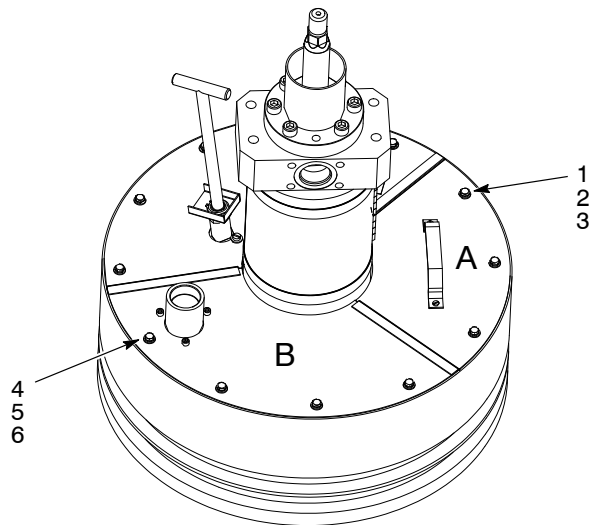
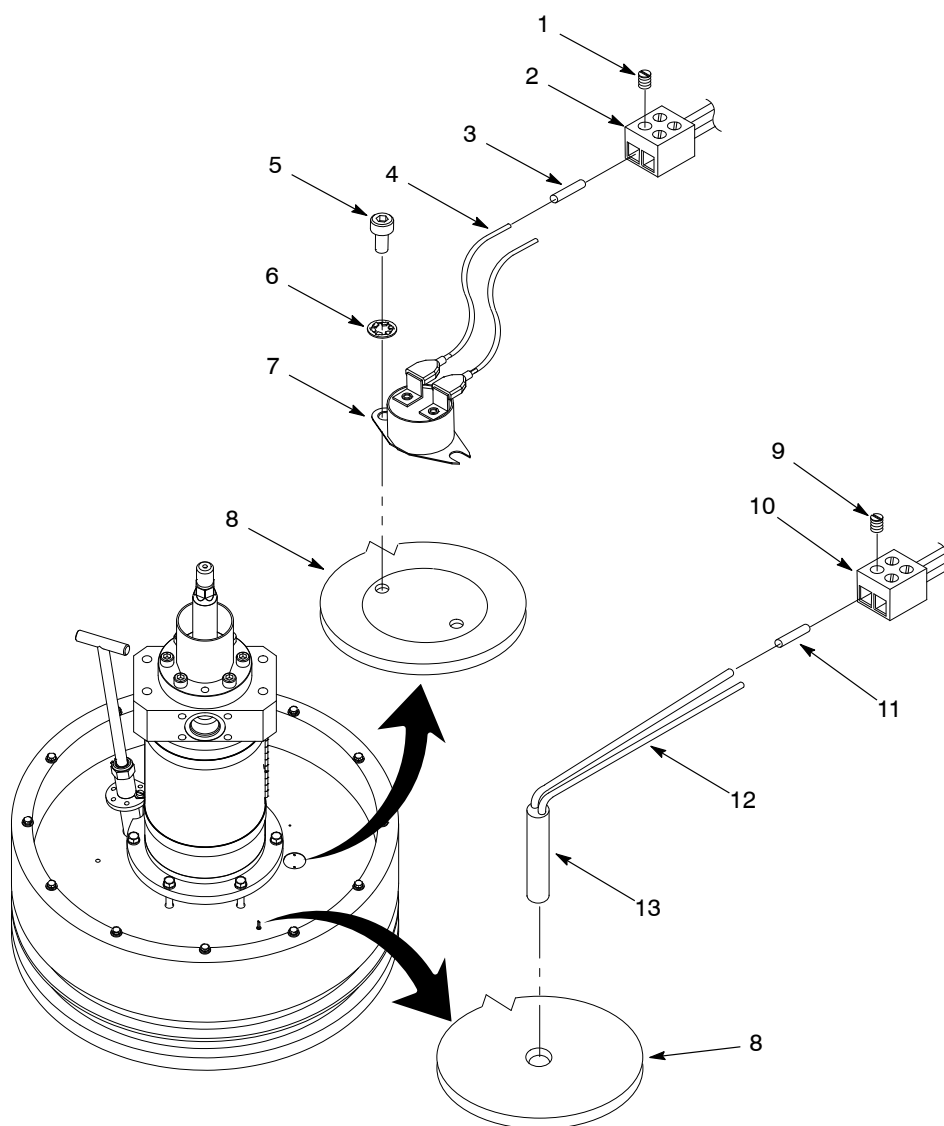

Figure 2 Heated Follower Module
Figure 3 Replacing the Thermostat and RTD
1. See Figure 2. Perform the following:
- Remove the screws (1), lock washers (2), and washers (3) securing cover A to gain access to the thermostat.
1. See Figure 3. Loosen the screws (1) on the terminal block (2) and remove the wire leads (4).
2. Remove the screws (5) and washers (6) securing the thermostat (7) to the follower plate (8).
3. Apply heat compound to the bottom of the new thermostat (4).
4. Install the thermostat (4) onto the follower plate (5) using the washers (2) and screws (1). Tighten the screws securely.
5. Crimp new ferrules (3) onto the wire leads (4). Insert the wire leads into the terminal block (2) and tighten the screws (1).
6. See Figure 2. Install cover A using the washers (3), lock washers (2), and screws (1). Tighten the screws securely.
1. See Figure 3. Loosen the screws (8) on the terminal block (7) and remove the RTD wires.
2. Remove the RTD (13) from the follower plate (8).
3. Apply heat compound to the new RTD (13). Insert the RTD into the follower plate (8).
4. Crimp new ferrules (11) onto the wire leads (12). Insert the wire leads into the terminal block (10) and tighten the screws (9).
5. See Figure 2. Install cover B using the washers (6), lock washers (5), and screws (4). Tighten the screws securely.